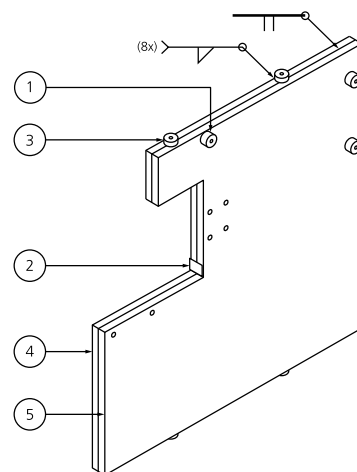

Fig. 10.10
- Choose a favourable location for the weld. Welding on the neutral line ensures an even distribution of the contraction forces. This reduces the risk of twisting and distortion. (Fig. 10.10)